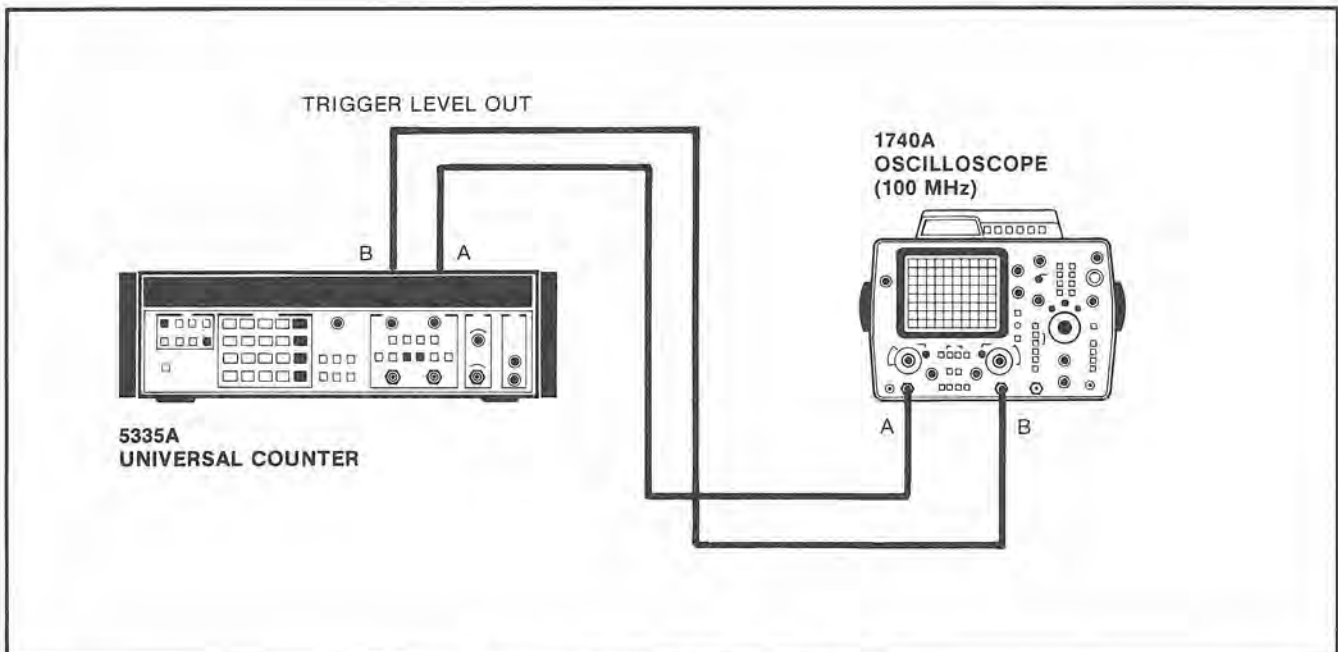

Figure 4-4. Option 040 DAC Test Setup
- a. Connect the 5335A Trigger Levels OUT A&B (rear panel) to the 1740A oscilloscope as shown in Figure 4-4.